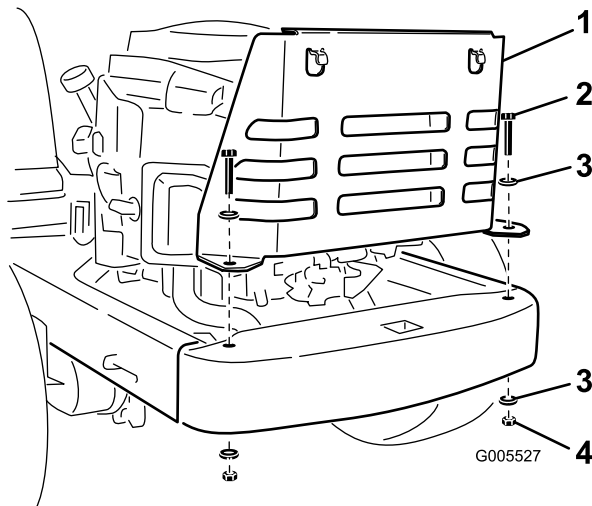

Figure 1
3. Position the engine guard behind the engine as shown in Figure 1.
4. Secure the guard to the rear bumper using 2 bolts (1/2 x 2 inches), 4 washers, and 2 locknuts (1/2 inch) (Figure 1). Ensure that you tighten the nuts securely.